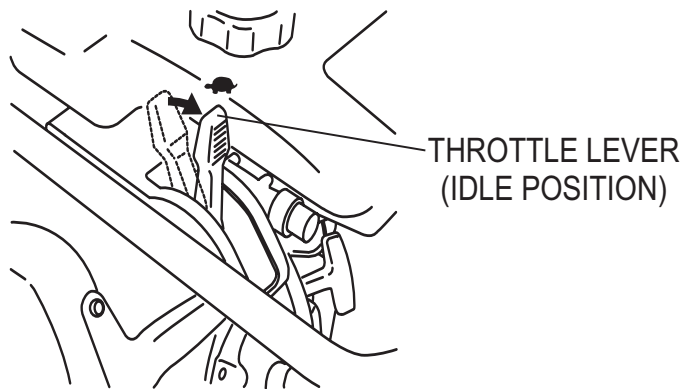

Figure 6. Throttle Lever (Idle Position)
1. Slide the throttle lever from the stop to the idle position (🐭) (Figure 6). This opens the fuel cock and the engine electrical circuit is turned on automatically.